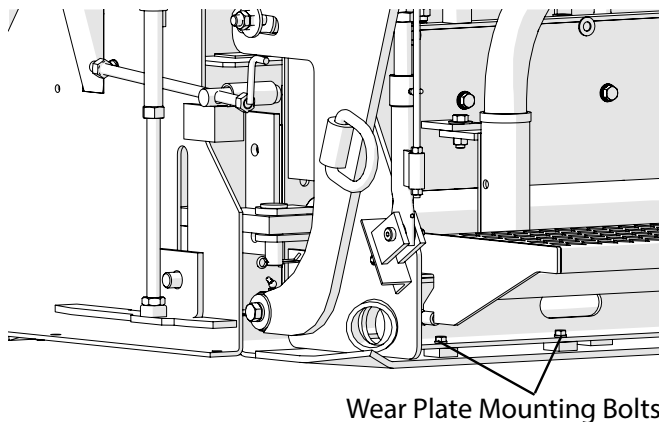

Figure 5-7. Wear Plate Mounting Bolts
3. Remove the 24 bolts (Figure 5-7) holding wear plate to screed frame.